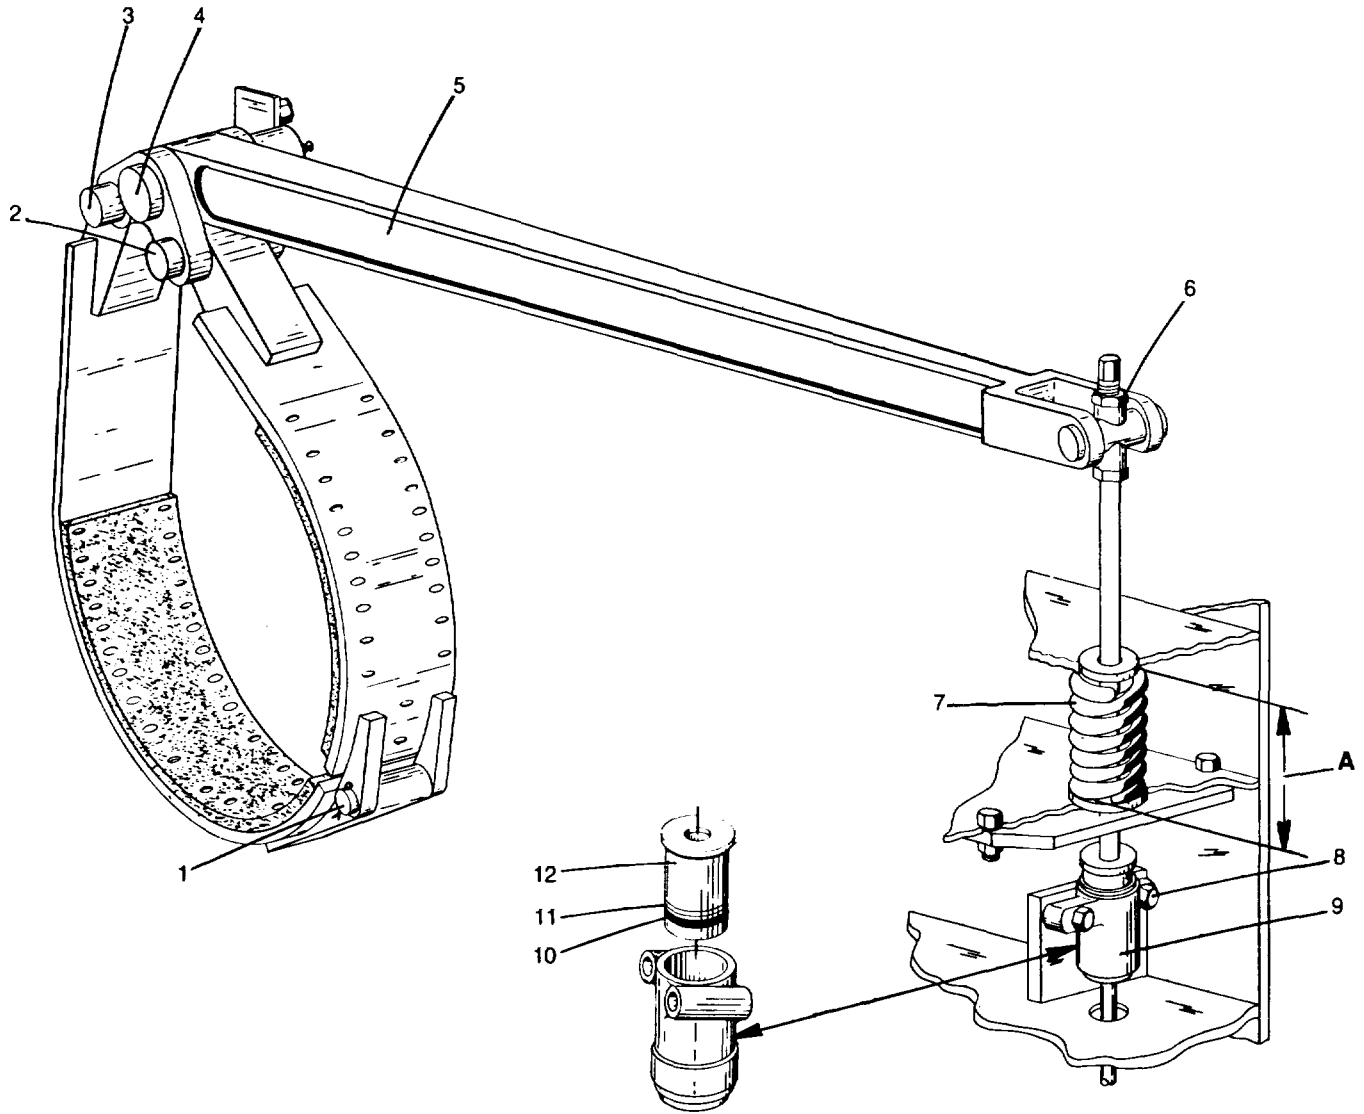

Fig. 1
11.4 Cylinder Removal (Fig. 1 and 2)
11.5 Cylinder Replacement (Fig. 1 and 2)